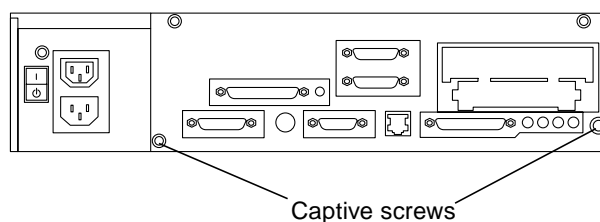

Figure 2-13 Captive Screws on the Back Panel
- 4. Loosen both captive screws on the back panel with a Phillips screwdriver (Figure 2-13).**